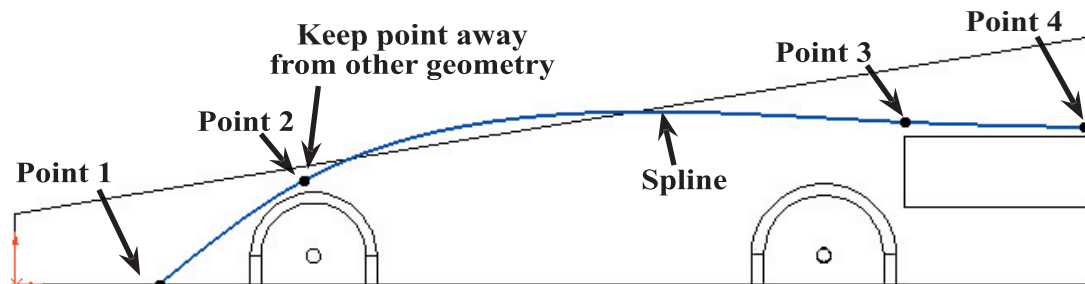

Fig. 21
Step 5. Click **Spline**  (S) on the Sketch toolbar.
Step 6. Start on the bottom edge of the sketch, **Point 1, Fig. 21**. Click approximately where the 4 points are positioned in **Fig. 21**. Start and end the spline on a line of the sketch. Keep the other spline points, Points 2 and 3 away from other geometry. Press Escape to end the spline.